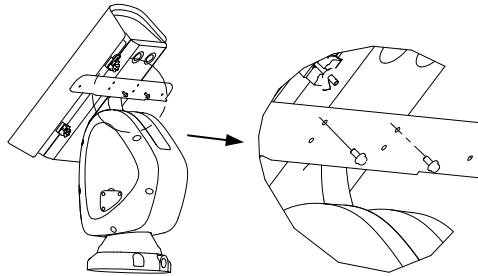

Figure 2-7 Secure the IR Bracket
- 1) Align the screw holes on the IR bracket with the screw holes on the housing as shown in Figure 2-7. Insert and tighten the two M4*10 screws to secure the bracket.